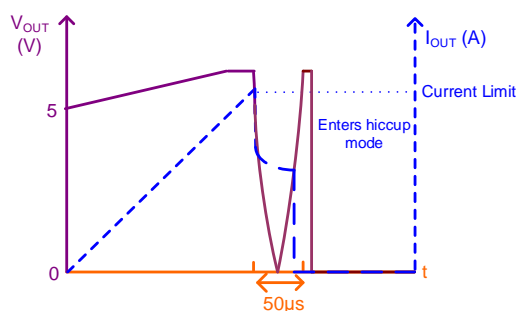

Figure 8: Over-Current Limit for CR Load
If the USB V_{OUT} is below 3.5V for longer than 50 μ s after SS, then the MPQ4276A enters hiccup mode without having to wait 5ms (see Figure 8). This prevents an abnormal temperature rise during the constant resistor (CR) load OC condition.